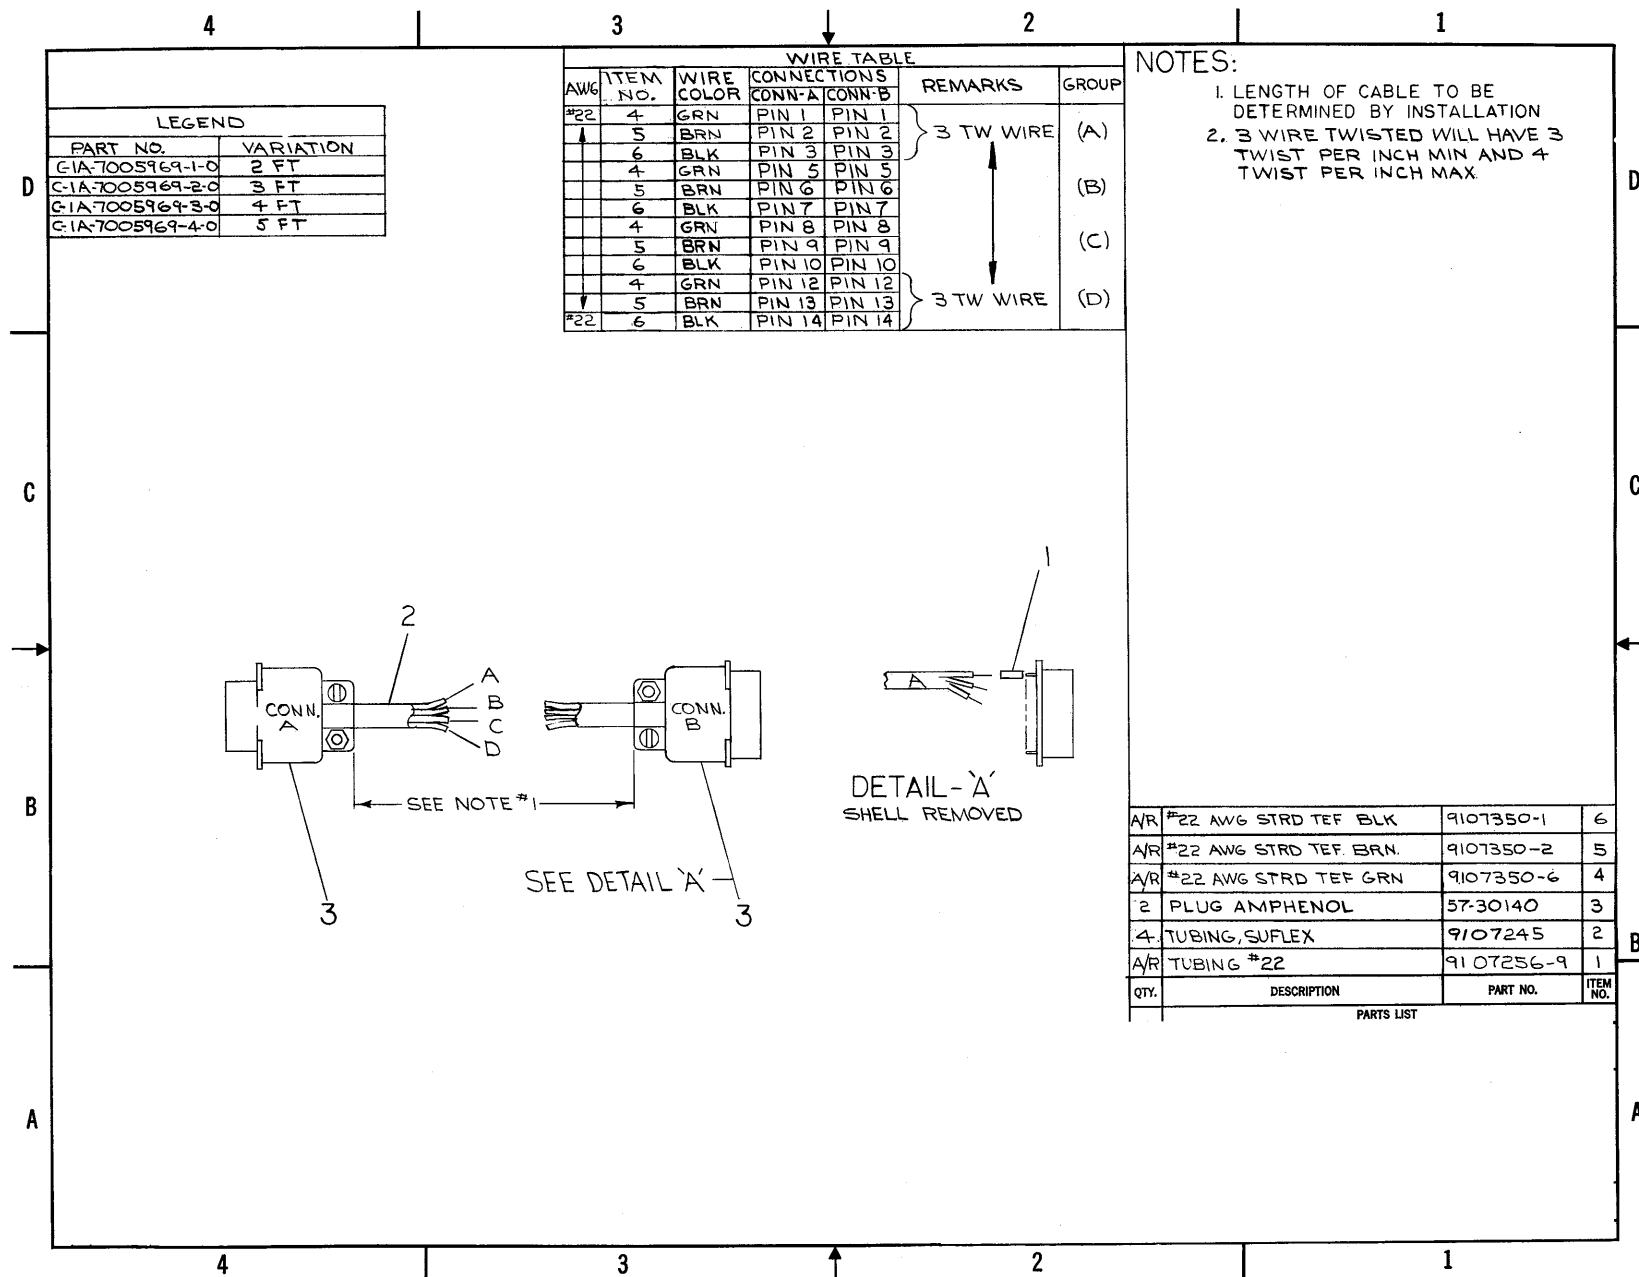

Figure 6-14 C-IA-7005969-0-0 H303 Amplifier Mounting Panel Cable Assembly Diagram
- Figure 6-14 H303 Amplifier Mounting Panel Cable Assembly Diagram (C-IA-7005969-0-0)